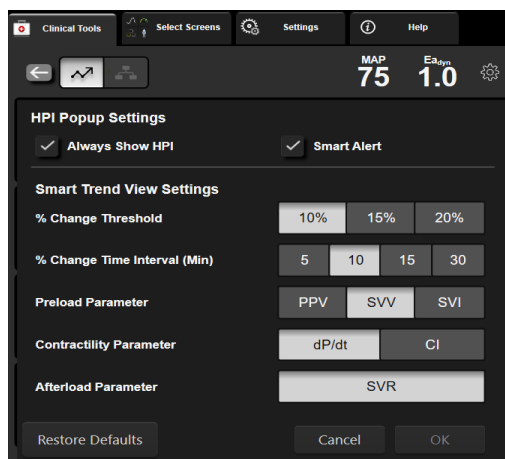

Figure 14-10 HPI secondary screen – smart trend view settings
- 3 Disable the **Always Show HPI** option button. See figure 14-10 on page 267.